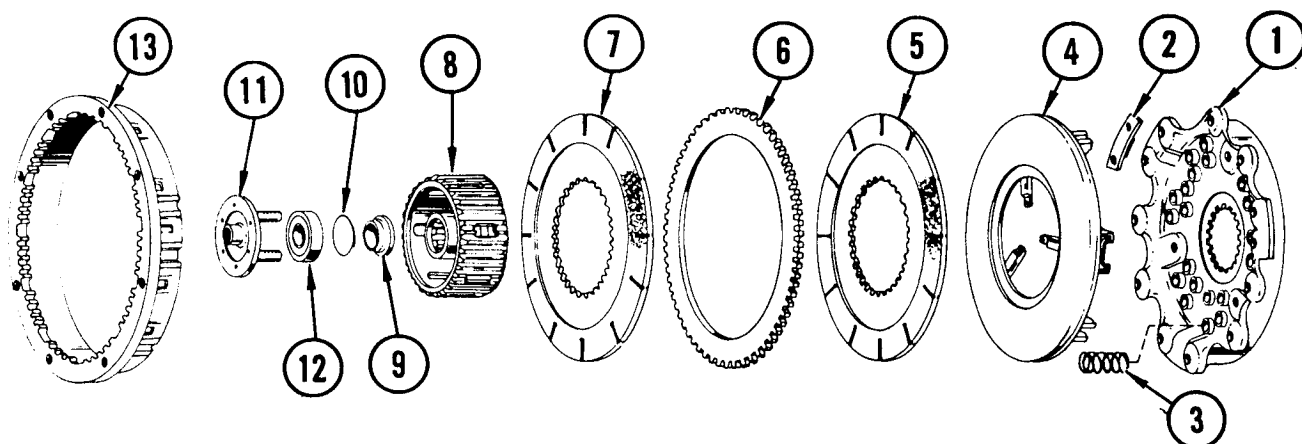

FIGURE 58. EXPLODED VIEW OF CLUTCH ASSEMBLY (2 DISC)
Remove twelve capscrews and lockwashers retaining clutch assembly to the flywheel adaptor (13). NOTE: There will be shims (2) between the backing plate (1) flange and the flywheel adaptor. Wire these shims to the backing plate flange. When reassembling, make certain these shims are replaced in same position as removed, Figure 58.